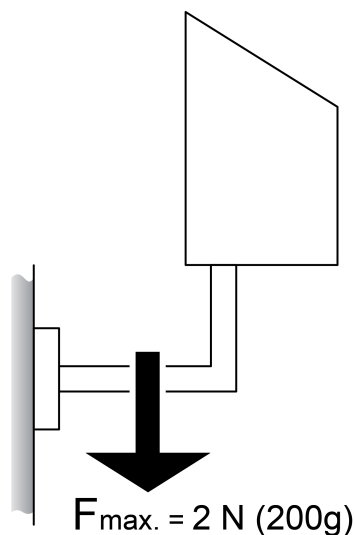

Figure 4: Maximum load on the angular arm
- Route the cables for the power supply and bus connection through one of the two cable entries (11) and into the terminal box (3).
- Connect supply voltage to connecting terminal (9).
- Connect KNX bus line to connecting terminal (10).
- Connect connecting plug of the sensor head (1) to sensor terminal (8) in terminal box (3).
- **i** The angular arm (2) may break when the terminal box is closed. The angular arm must not be used as a lever (Figure 4).